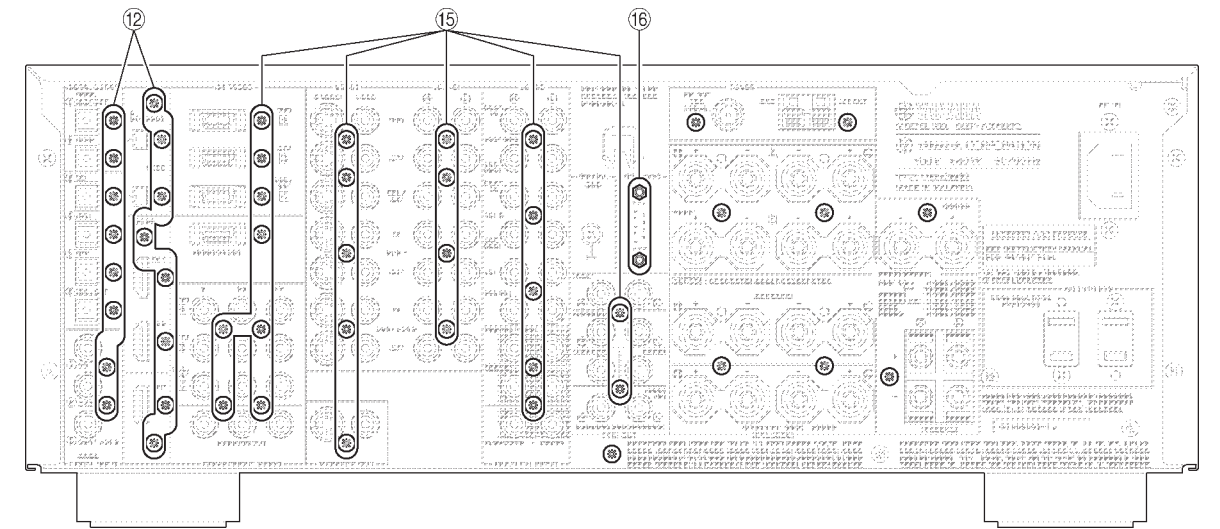

Fig. 4
- d. Remove 16 screws (⑫). (Fig. 4)
- d. ⑫のネジ16本を外します。(Fig. 4)
6. Removal of CONTROL, FUNCTION (1), (2), (4) ~ (6), INPUT (1), (2), IBOC (U model) P.C.B.s and Tuner (C, R, T, K, A, B, G, L models)
- a. Remove 25 (U model) / 23 (C, R, T, K, A, B, G, L models) screws (15). (Fig. 4)
- b. Remove 2 jack screws (16). (Fig. 4)
- d. Remove CONTROL, FUNCTION (1), (2), (4) ~ (6), INPUT (1), (2), IBOC (U model) P.C.B.s and Tuner (C, R, T, K, A, B, G, L models).
- a. ⑮のネジ24本を外します。(Fig. 4)
- b. ⑯のジャックスクリュー2本を外します。(Fig. 4)